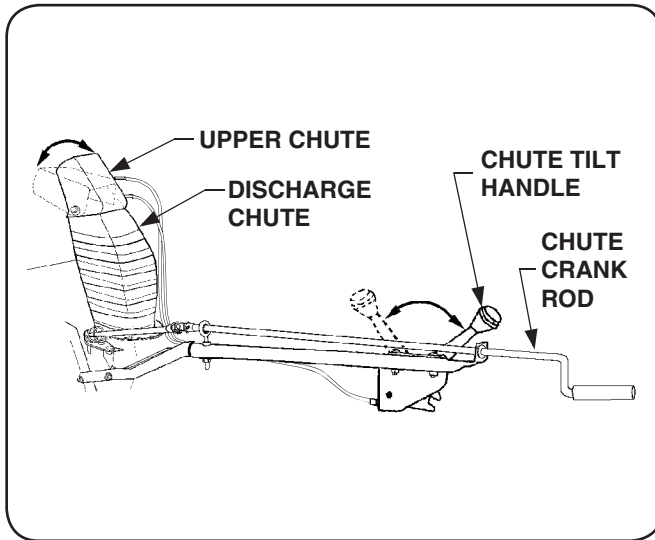

Figure 5-4
3. **Discharge Chute Control Crank:** The discharge chute control crank is located on the left hand side of the snow thrower. The chute crank controls the direction in which the snow is thrown. The discharge radius is 190 degrees. Turn the crank clockwise to rotate the discharge chute opening toward the left, and counterclockwise to rotate toward the right. Refer to Figure 5-4.
4. **Chute Tilt Handle:** The chute tilt handle assembly is also located on the left hand side of the snow thrower assembly. The upper chute of the discharge chute assembly pivots downward when the tilt handle is pushed forward, decreasing the distance snow is thrown. Pulling the handle backwards pivots the upper chute upward, increasing the distance snow is thrown. Refer to Figure 5-4.